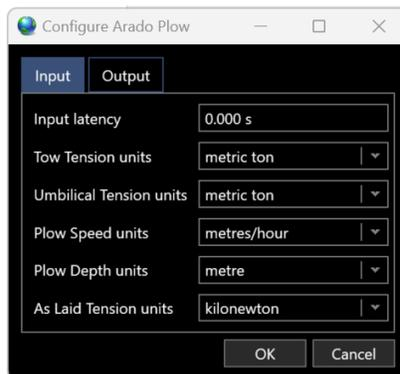

Figure 1 Arado Plow Input Configuration
- d. Figure 1 is an example of the settings that match the interface document provided